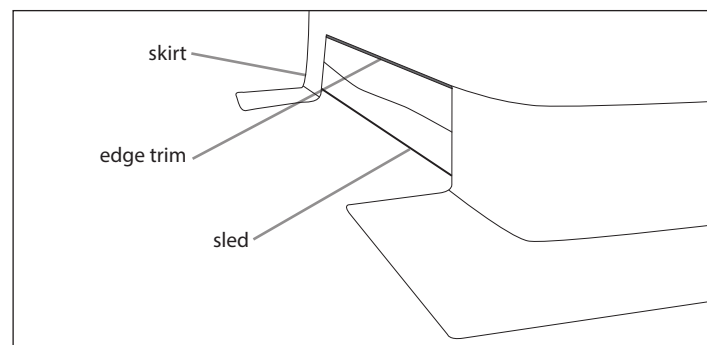

FIGURE 10
17. Pull the skin taut and push the edge trim over lip of the sled with the shelter skin between the two. It is important to keep the skin taut and work the edge trim evenly around both sides of the shelter until all edge trim is in place. **SEE FIGURE 10**